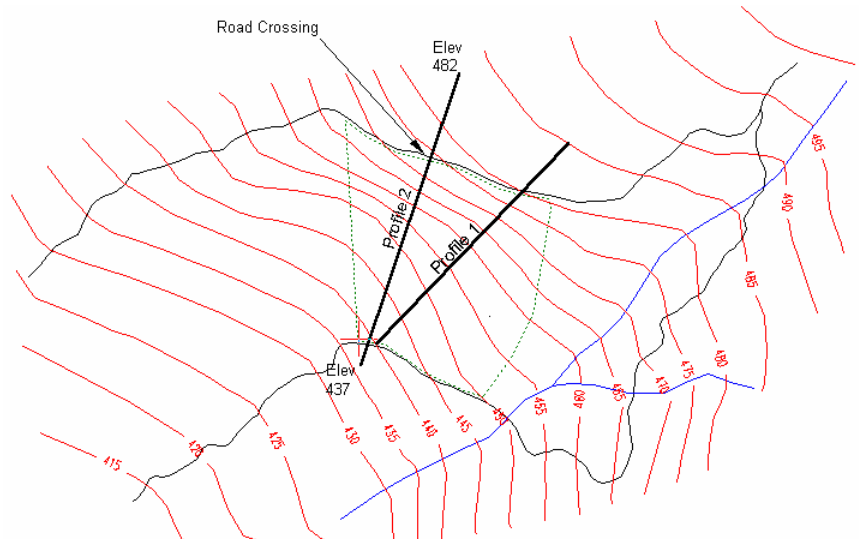

Figure 9.18: Plan View of digitize profile.TER.
2. Select the Plan Window by clicking on the title bar. Select menu File|Print Active Window. Choose NO to plot current page only. Press OK. This will print the contour map shown in Figure 9.18